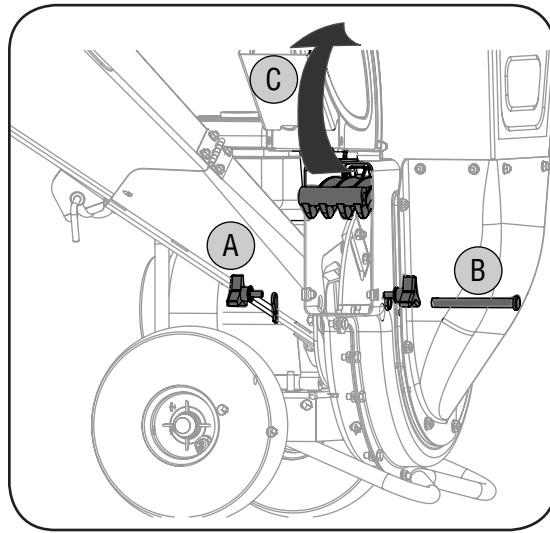

Figure 5-1
2. a. If attached, remove debris bag. Remove the two wing knobs on either side of the chute deflector and pivot the chute deflector upward. See Figure 5-1.
b. Remove the hairpin clip from the clevis pin which extends through the housing and shredder screen. See Figure 5-1. Remove clevis pin.